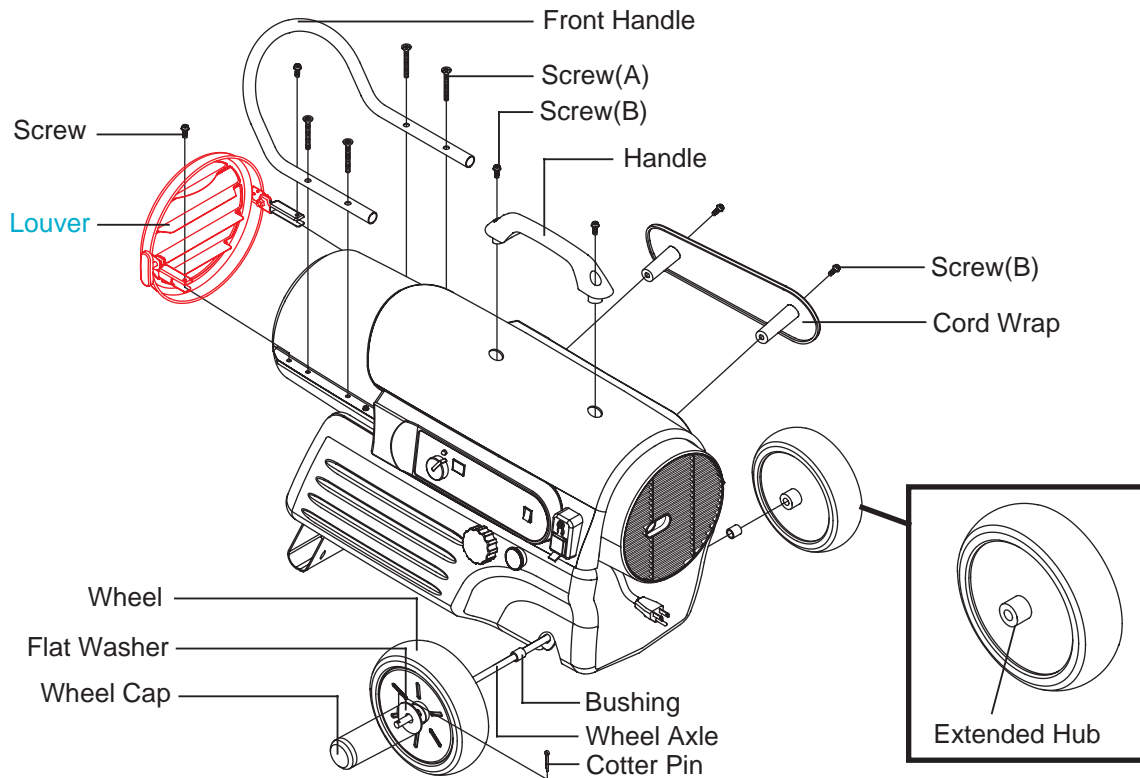

Figure 8. Wheel and Handle Assembly, RMC-KFA125TDGP/RMC-KFA170TDGP Models Only.
- 1) Slide one Wheel & Bushing over the Wheel Axle, making sure that the extended hub of the wheel points towards the wheel points towards the Wheel Support(See Figure 8,Page 6).
- 6) Fit Bracket - Right & Left to each side flange of Upper shell and align the each hole on the brackets with the hole on the flanges.(See Figure 8, Page 6)